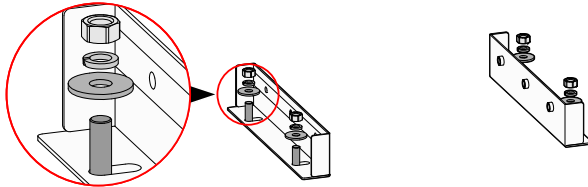

Figure3-13 Fasten the supporting plate
- Step 4 Fasten the supporting plate. Put the supporting plate on the ground where has been drill the expansion bolts. Install the flat gasket($\Phi 10$), spring gasket($\Phi 10$) and bolts($\Phi 10$), then pre-screw the bolts, as shown in Figure3-13.